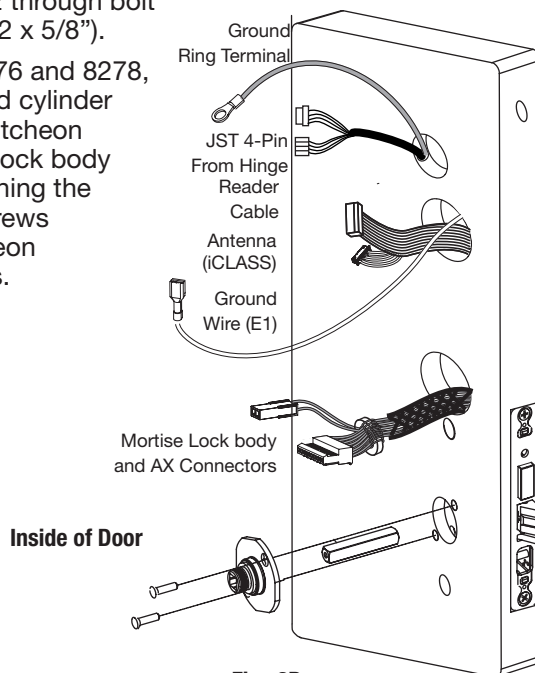

Fig. 6B
2. With outside lever horizontal, locate the outside escutcheon on the door, while directing the mounting posts through the door and lock body (Fig. 6B).